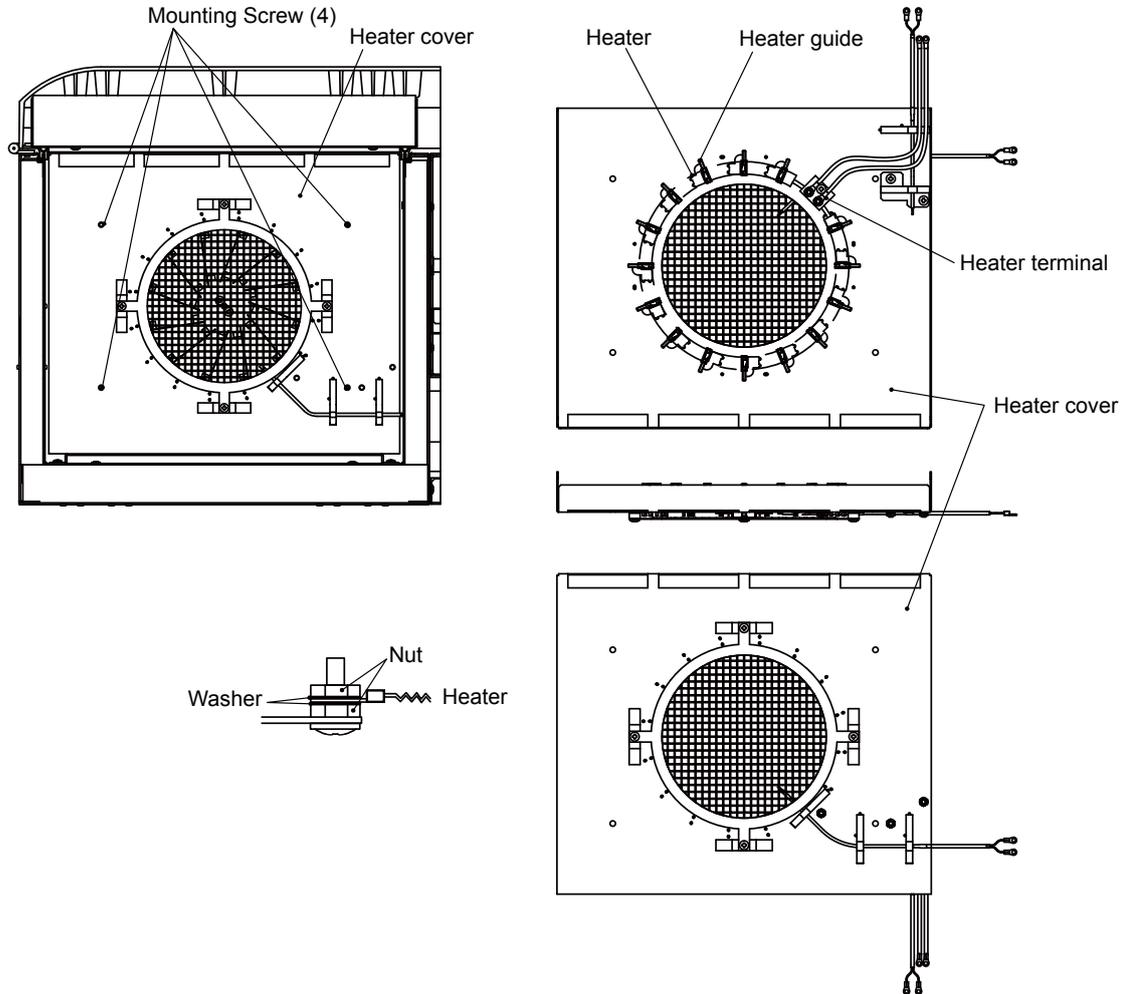

Figure 6.26 Heater for Isothermal Oven
- (9) Pull both ends of the new heater and stretch it to about 500 mm long. Ensure that the heater is stretched evenly (see Figure 6.26).
- (10) Confirm that the heater is not sagging and is stretched evenly.
- (11) Reinstall the heater cover with the four screws. Confirm the temperature sensors are in place.
- (12) Reconnect the wiring which has been disconnected in step (5) to the terminal block.
- (13) Close the door of the isothermal oven.